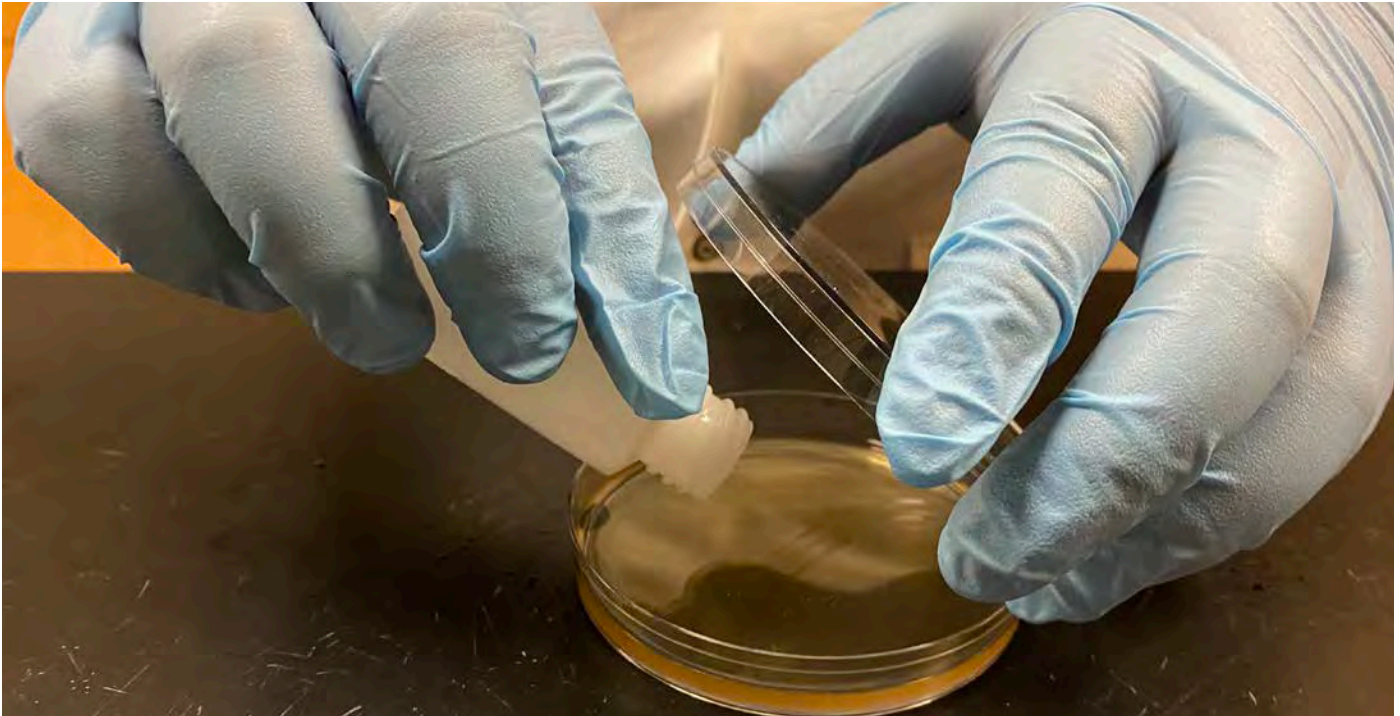

Figure 22: Proper pour method of Coliscan media and sample mixture onto petri dish.
- While holding the petri dish cover in one hand, slowly **pour** the mixture into the petri dish (see Figure 22).